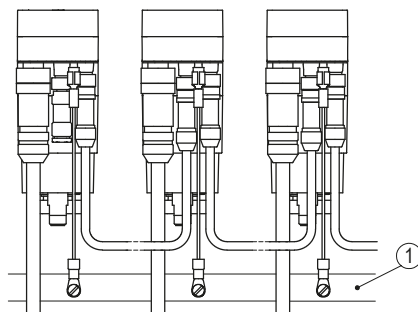

Fig. 8: Ground bar
For protection against interference, the screens of the signal lines and the power line must be connected on both sides. Potential differences cause inadmissible currents on the screen. Apply the PE connection ④ to the protective conductor potential below the connecting plugs (see Fig. 7). Use 6.3 mm flat connectors with short strands 2.5 ... 4 mm² (not in the scope of delivery). For multiple actuators we recommend connecting the earthing to a ground bar ① (see Fig. 8).